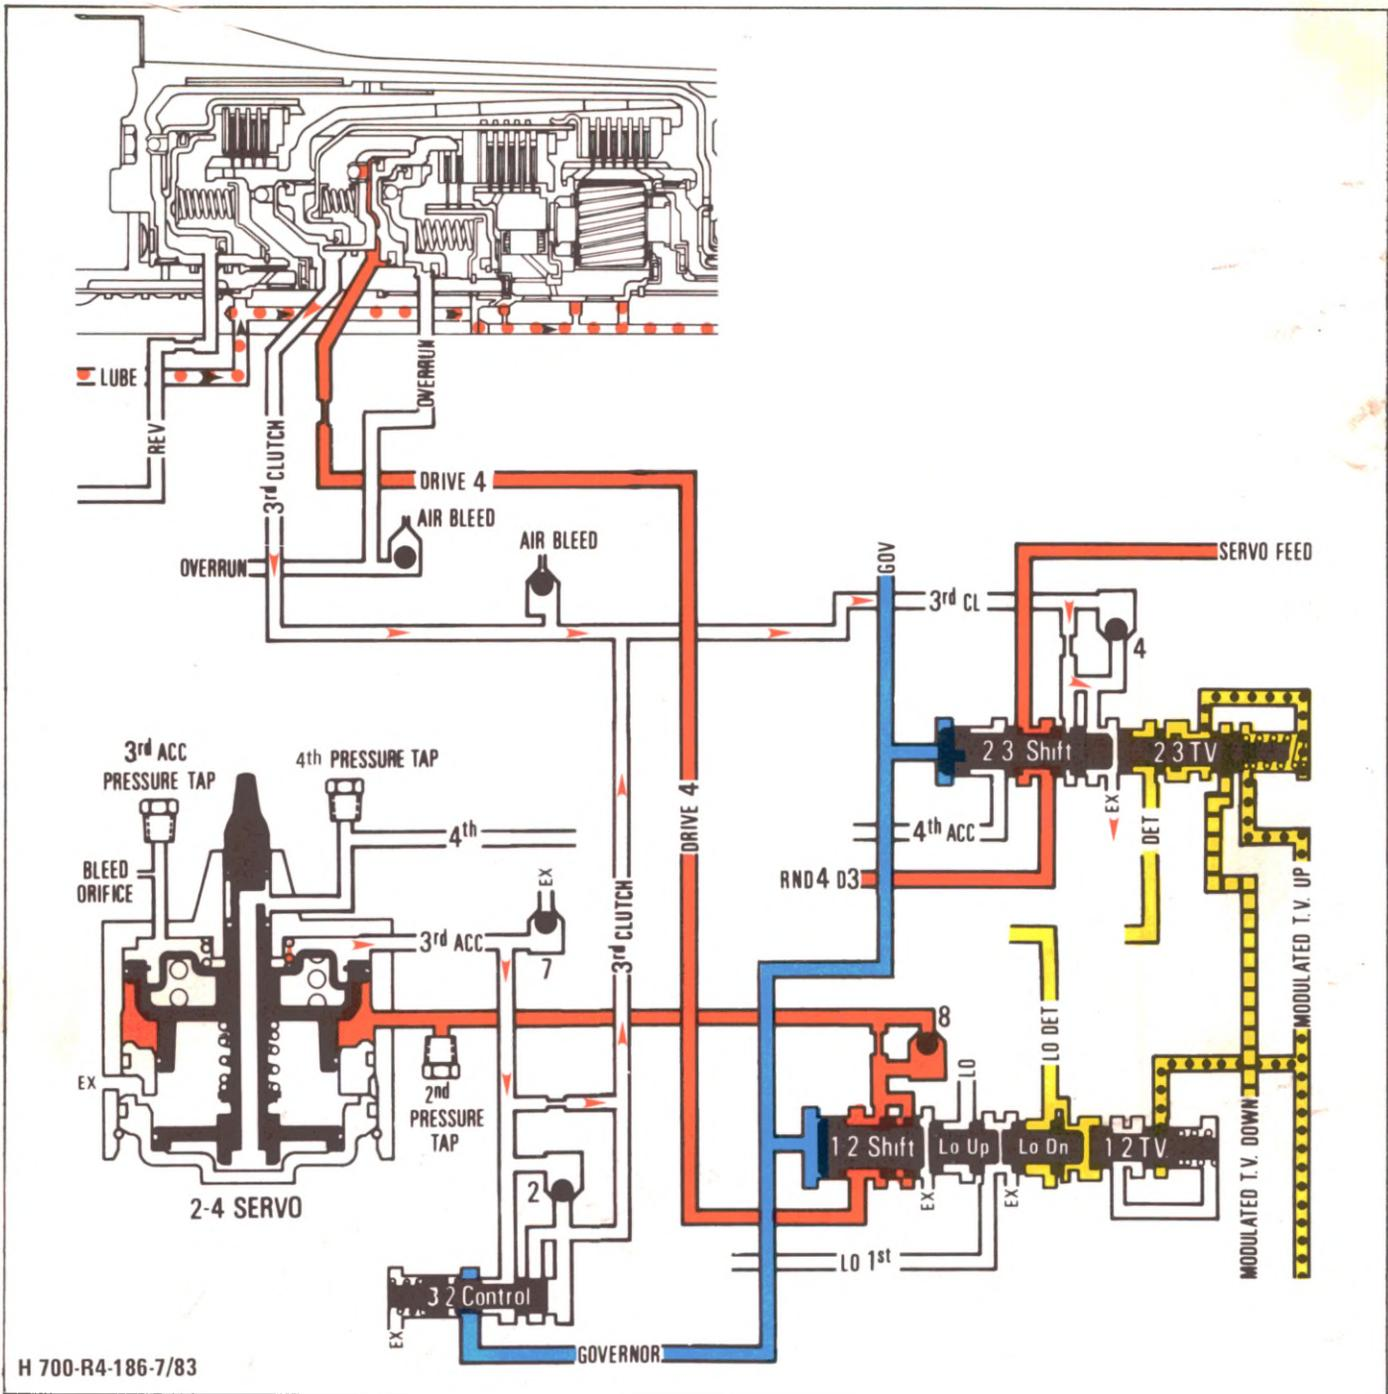

Figure 66 - Detent Downshift Timing (High Speed)
accumulator check ball (2) and flows through another orifice, controlling the apply of the 2-4 band (Fig. 66, pg. 60).